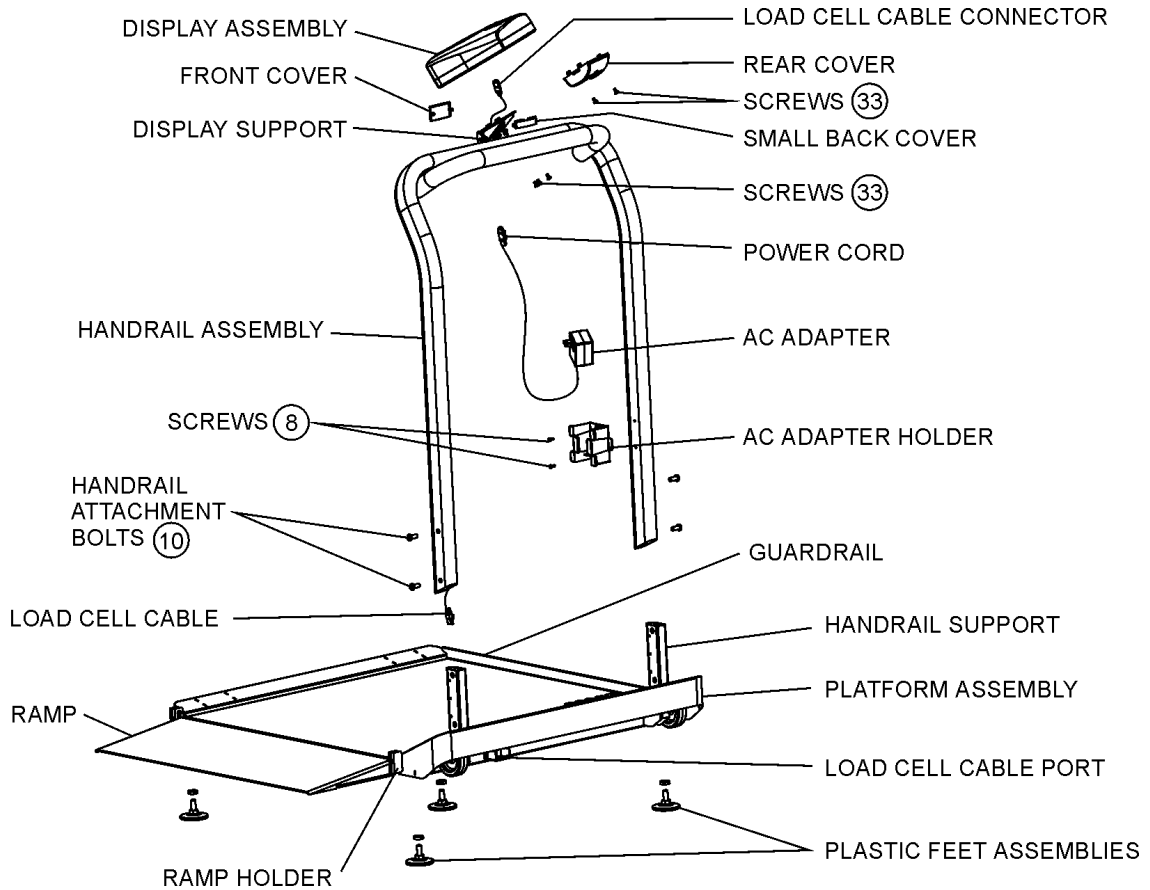

Figure 1. Assembly After Shipment
2. Unscrew all the screws from the bottom of the handrail assembly. Hold the handrail assembly perpendicular to the platform assembly, as shown in Figure 1. Feed the load cell cable (protrudes from the right side of the handrail assembly) into the tube in the right handrail support. The load cell cable should pass through the tube and exit beneath the platform.